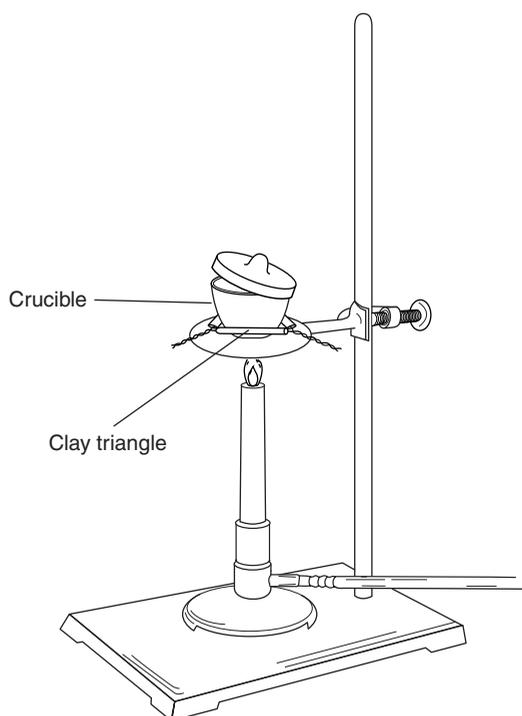

Figure 5.1
- A. The purpose of this step is to remove moisture from the crucible. Support a clean, dry porcelain crucible and its lid on a clay triangle, as shown in Figure 5.1. Heat it slowly at first, and then fairly strongly in the direct flame of a burner for about 4 to 5 minutes. Set the crucible and lid aside on a wire gauze to cool.
- D. Remove the lid and hold it near the crucible with a pair of tongs. Start heating the crucible, and as soon as the magnesium begins to burn, replace the lid. Continue the process, holding the escape of white smoke to a minimum (very finely divided magnesium oxide looks like smoke). When the contents of the crucible no longer burn, cock the lid wide enough to allow a sufficient amount of air to enter to complete the reaction, as shown in Figure 5.1, and heat it strongly for 5 minutes.
- A. Heat a clean porcelain crucible and its lid—the “container” for this experiment (see pages 9 and 10)—on a clay triangle over a direct flame for 5 minutes to drive off any surface moisture. (See Figure 5.1, page 62.) When they are cool to the touch, weigh them on a milligram balance, recording this and subsequent masses in the “constant mass” portion of your data sheet. Heat the container to constant mass in 5-minute heating cycles until duplicate masses (within 0.005 g) are reached. Record the final (constant) mass as the mass of the container.